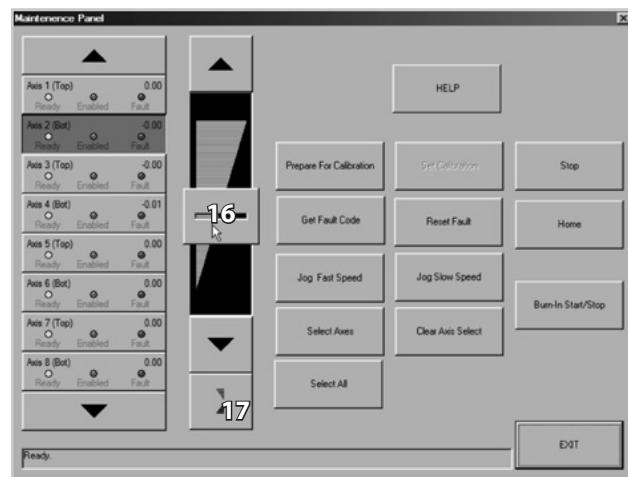

Figure 54
15. Change Jog mode – Click to change jog function to “Latching” mode (Figure 54)
16. Jog (Latching mode)- Click the button then slide up or down to jog, axis will continue jogging even button is not pressed (Latch). Click button again to stop (Figure 54)
17. Change Jog mode – click to change jog function to “Momentary” mode (Figure 54)